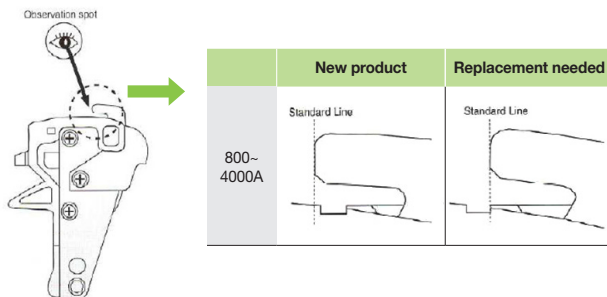

Fig2. The standard figure for contact replacement
3. Close the product and compare the condition of the moving contact with the below fig.2.